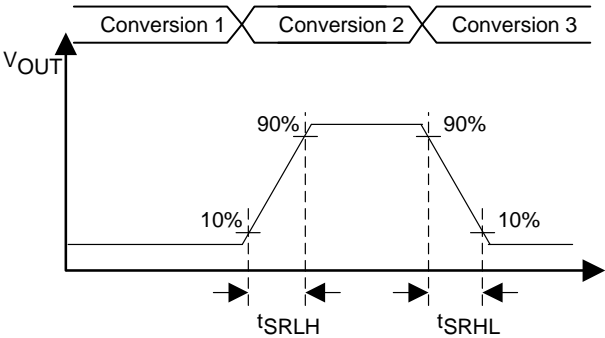

Figure 31. Slew Rate Testing
**12-bit DAC, dynamic specifications; Vref = VCC, DAC12IR = 1 (see Figure 30 and Figure 31)**